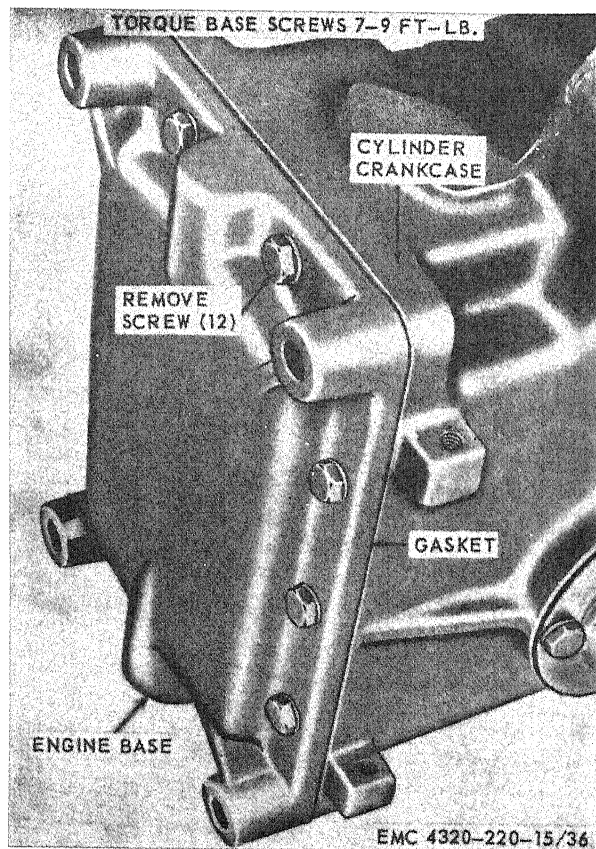

Figure 36. Engine base, removal and installation.
- d.* Turn the engine on its side and remove and install the engine base as shown by figure 36.